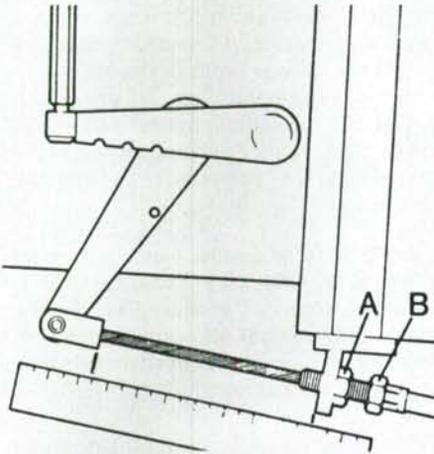

Fig. 160—Adjust pto clutch by turning cable adjuster (B) until cross-shaft lever free movement is 3-5 mm ( $\frac{1}{8}$ - $\frac{1}{4}$  inch).
To adjust pto clutch linkage, place pto clutch hand lever in engaged position. Loosen locknut (A—Fig. 160) and turn cable adjuster (B) to provide 3-5 mm (1/8-1/4 inch) free movement at end of pto clutch cross-shaft lever.